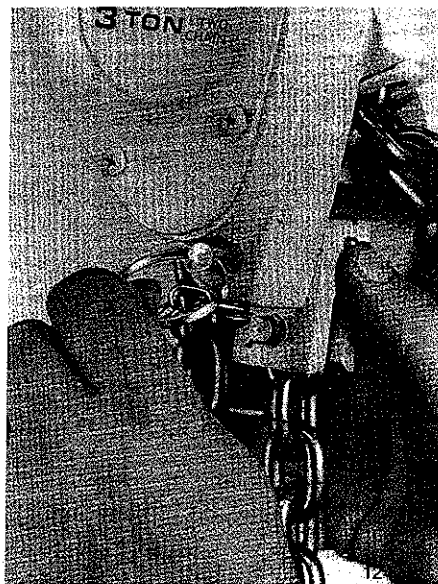

Figure 8-4.
b. Depress and hold Release Pin and withdraw Frame Anchor Pin as shown in Figure 8-4.